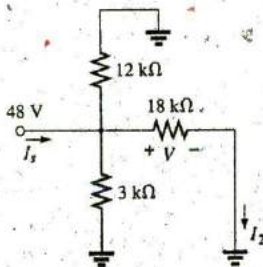

FIG. 6.86
16. For the network of Fig. 6.86, find: